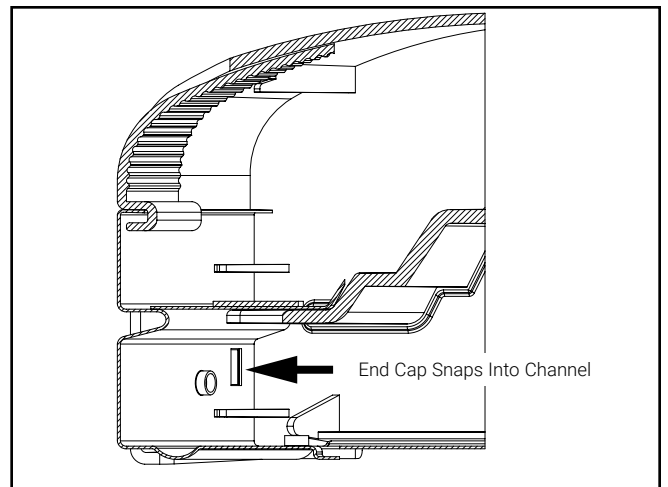

Figure 15.
3. With screws removed, end caps can be removed by pulling end cap off of channel. There is 1 snap on each side of the end cap that engages into the channel, so pull firmly (Figure 15).